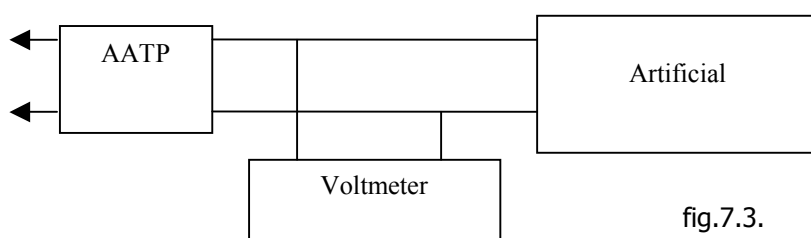

fig.7.3.
7.8.The power level on the input of the artificial is checked under the diagram showed in fig. 7.3.